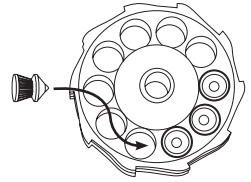

Fig. 6
2. Load pellets through the rear of the magazine. (Fig.6). Push the pellet noses through the retaining O-ring until their skirts lie flush or below the bottom of the magazine face.